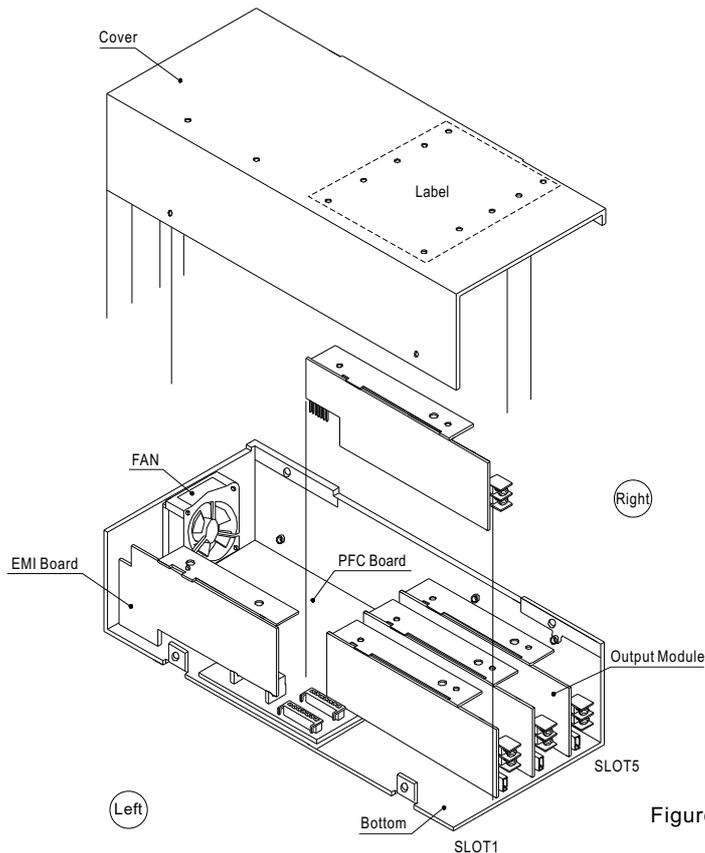

Figure 4-1 System assembly diagram
- ⊙ The assembly diagram of the PFC front-end and output modules is shown in Figure 4-1.